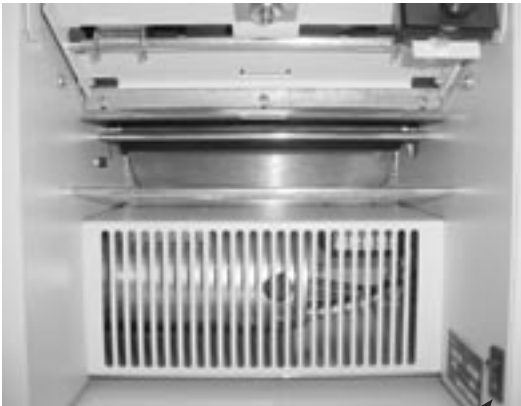

Figure 1
3. Plug in cord and turn power on (figure 1).